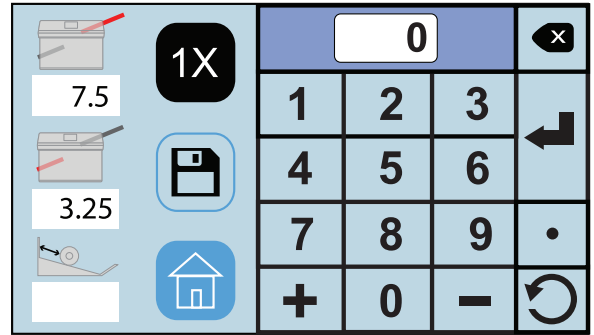

Fig. 17
5. Next set the automatic outfeed stackers. There are 10 stacker positions available. Select the one that best matches the size of the folded document. Using the touch pad key in the stacker position (Fig. 17), key in 0 - 9 based on the chart below.